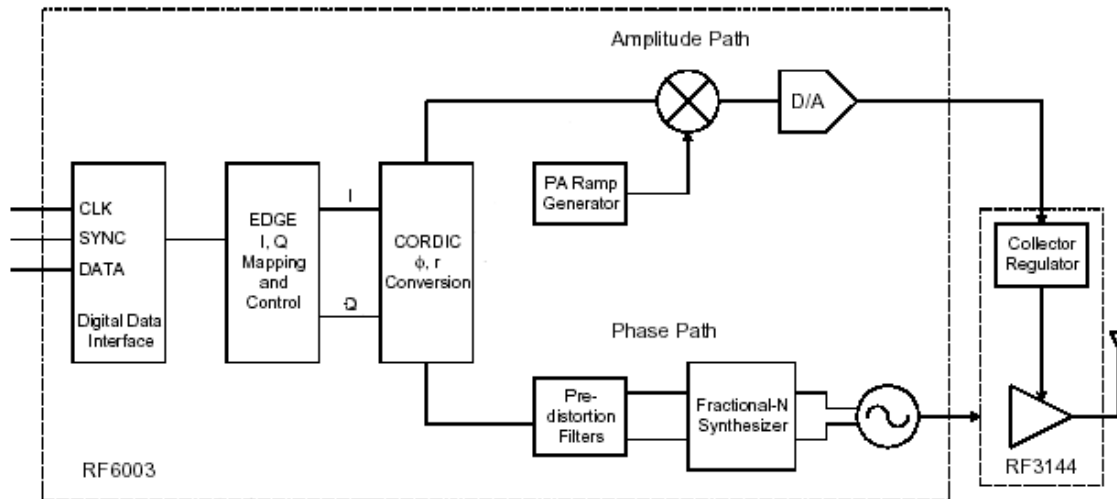

Figure 18 – R6003 Functional Block Diagram
filter roll off and then combined with the channel selection word of the Fractional-N (FN) synthesizer, which is directly modulated onto the internal VCO. The amplitude components are scaled according to the PA ramping control signal and directly applied to the PA collector voltage control system (in the RF3144). The amplitude component is directly modulated onto the PA output. Figure 18 shows the RF6003 function block diagram.